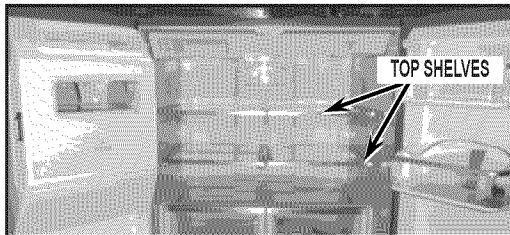

FIGURE 1
3. Remove all items from top shelves and remove shelves. See *Figure 1*.